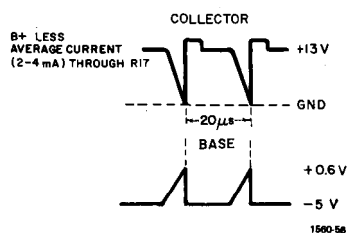

Figure 4-15. Waveforms at transistor Q5.
**Oscillator Section.** Check the waveforms at Q5, using the fast-rise-time pulse oscilloscope. The waveforms are shown in Figure 4-15.